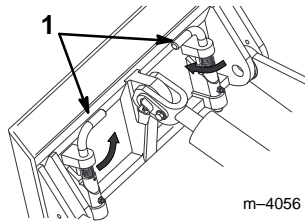

Figure 3
- Engage the quick attach pins (Fig. 3).